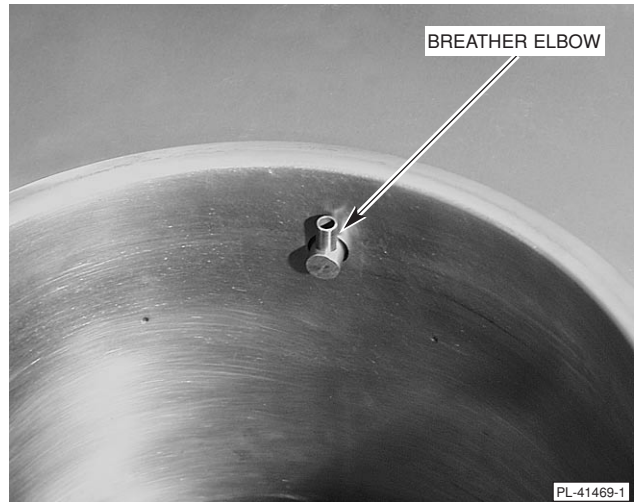

Fig. 17
1. Open the kettle lid and remove the breather elbow (Fig. 17) from the inside wall of the kettle. Wash the elbow in hot, soapy water, then rinse well and allow to air dry. Inspect the two O-Rings. If cracked or worn, contact your local Hobart service office for replacement.